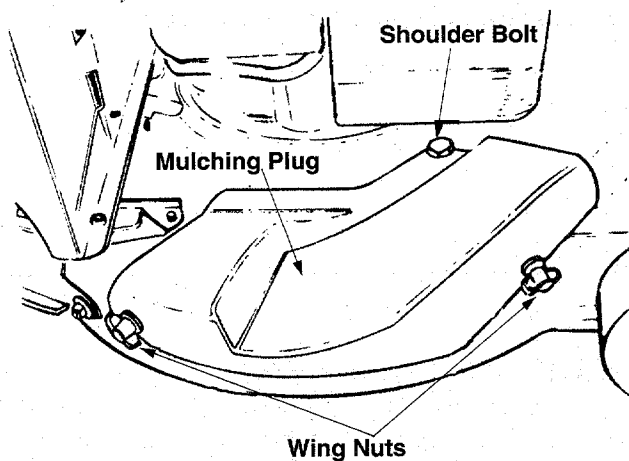

Figure 8
- Attach the mulching plug by first placing it over the rear bolt in the side of the deck. Then slide the notch in the top of the mulching plug around the shoulder bolt on the top of the deck. Slide the notch in the side of the mulching plug around the front bolt in side of the deck. Secure using two wing nuts. See Figure 8.